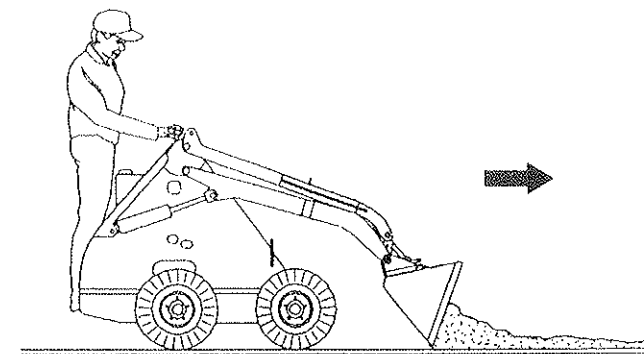

FIGURE 16
1. To spread material on uneven ground, raise lift arms and tilt bucket forward while driving slowly forward, as in **Figure 16**.